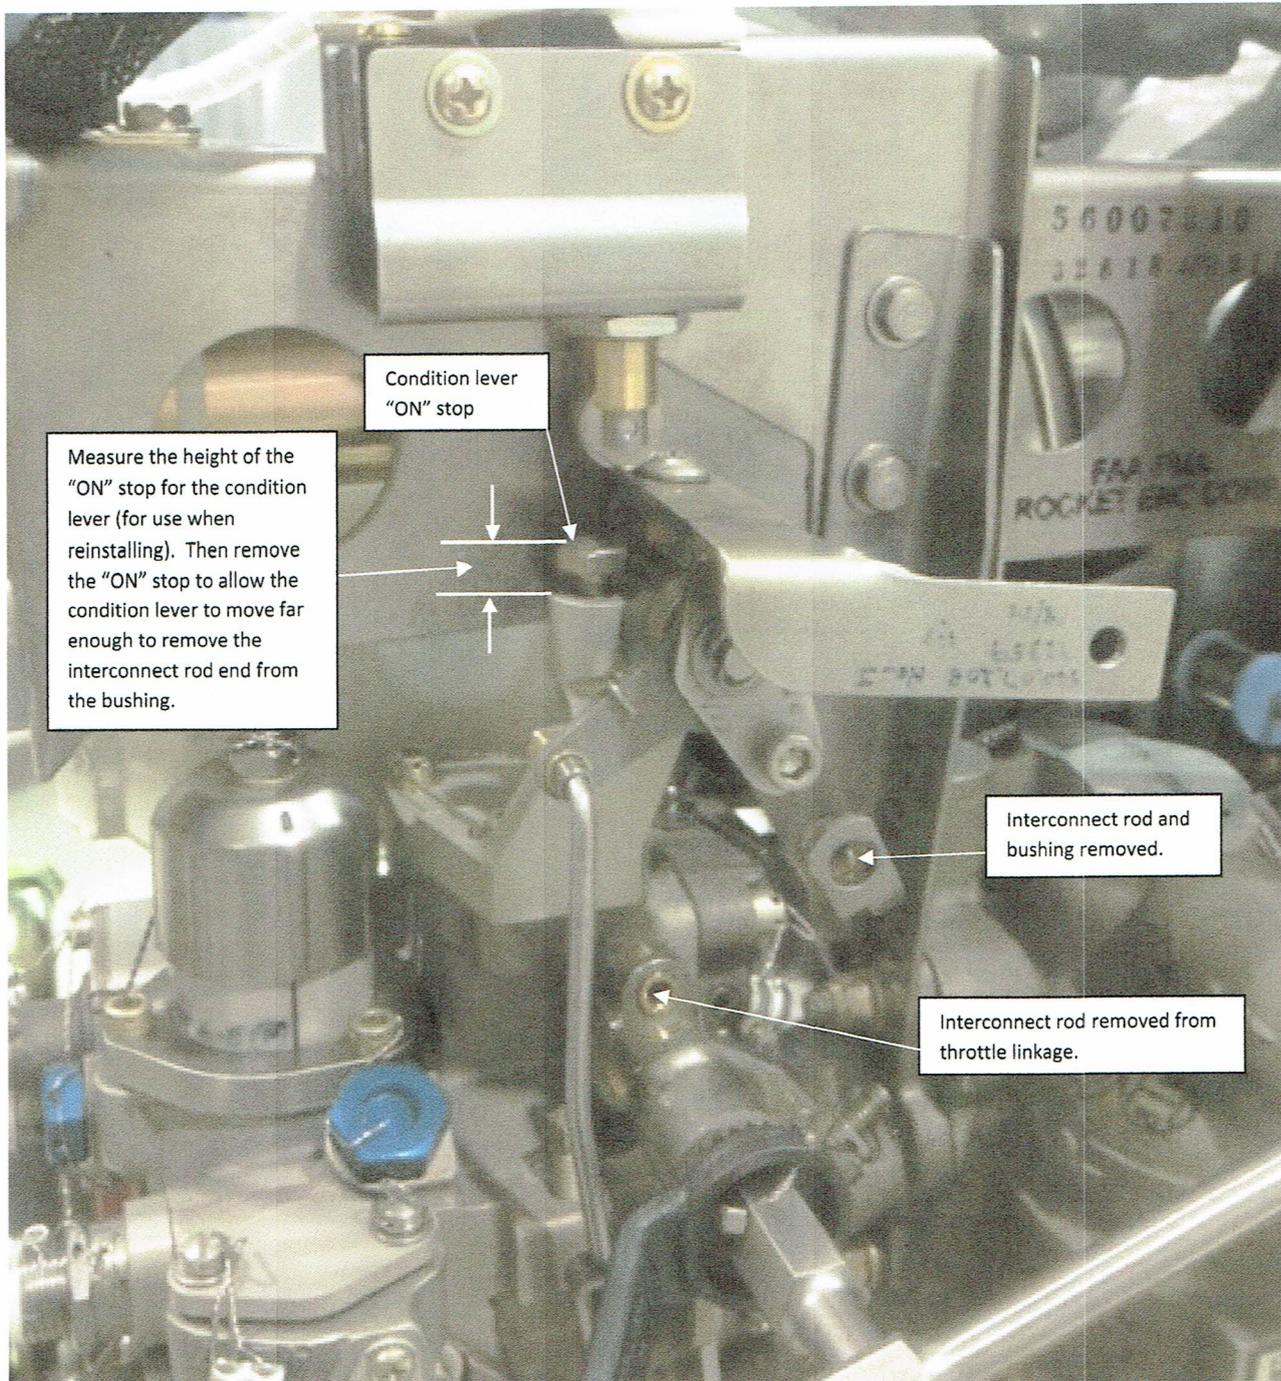

Figure 3. Condition Lever "ON" Stop
4. Measure the height of the condition lever “ON” stop so it can be reinstalled in the same position. Then remove the condition lever “ON” stop. See Figure 3.